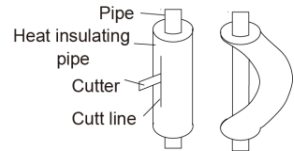

Fig. 10
- (2). Do not bend the pipes in an angle more than 90° .
- (3). When pipes are repeatedly bent or stretched, the material will harden, making it difficult to bend or stretch them any more. Do not bend or stretch the pipes more than three times.
- (4). When bending the pipe, do not bend it as is. The pipe will be collapsed. In this case, cut the heat insulating pipe with a sharp cutter as shown in Fig. 10, and bend it after exposing the pipe. After bending the pipe as you want, be sure to put the heat insulating pipe back on the pipe, and secure it with tape.